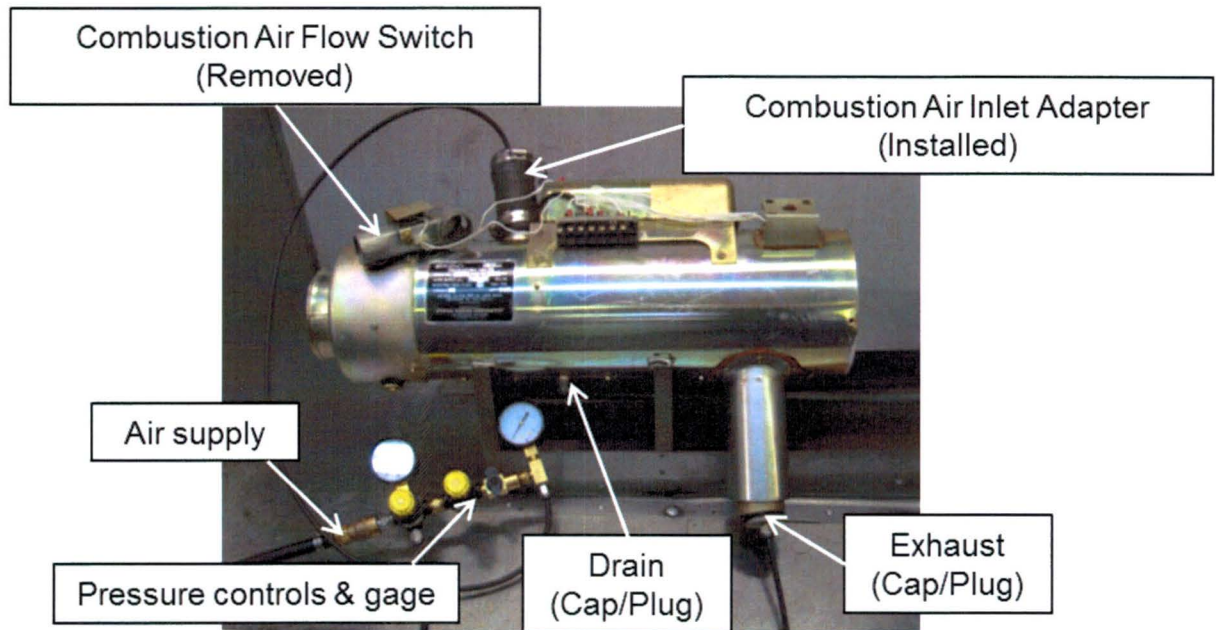

Figure 3
- 6.4 Verify that all other openings into the combustion chamber are sealed. Then insert exhaust seal bulb into the exhaust. (Figure 3, 4)
- 6.6 Attach a compressed air supply line to the combustion air inlet adapter fitting, (Figure 3). Slowly apply 2 or 3 psig of air pressure from the compressed air regulator to check that the exhaust tube, combustion air inlet, spark plug, and fuel drain are sealed and leak proof.